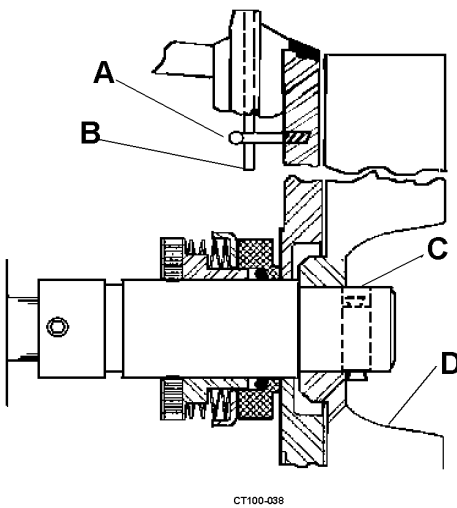

Figure 27 - Backplate Installation
5. Install the backplate on the adapter. Check that the seal cup slot is engaged with the pin on the drive collar. See Figure 27.
6. Rotate the backplate until the backplate pins engage the adapter pins. (See Figure 27, item A and B.)
7. Rotate the shaft until the pin hole in the end is in a horizontal position. Insert the impeller pin (Figure 27, item C), center it in the shaft end, and slide the impeller (Figure 27, item D) onto the shaft.
1. Install the backplate, gasket, and casing. See Figure 27 on page 19.